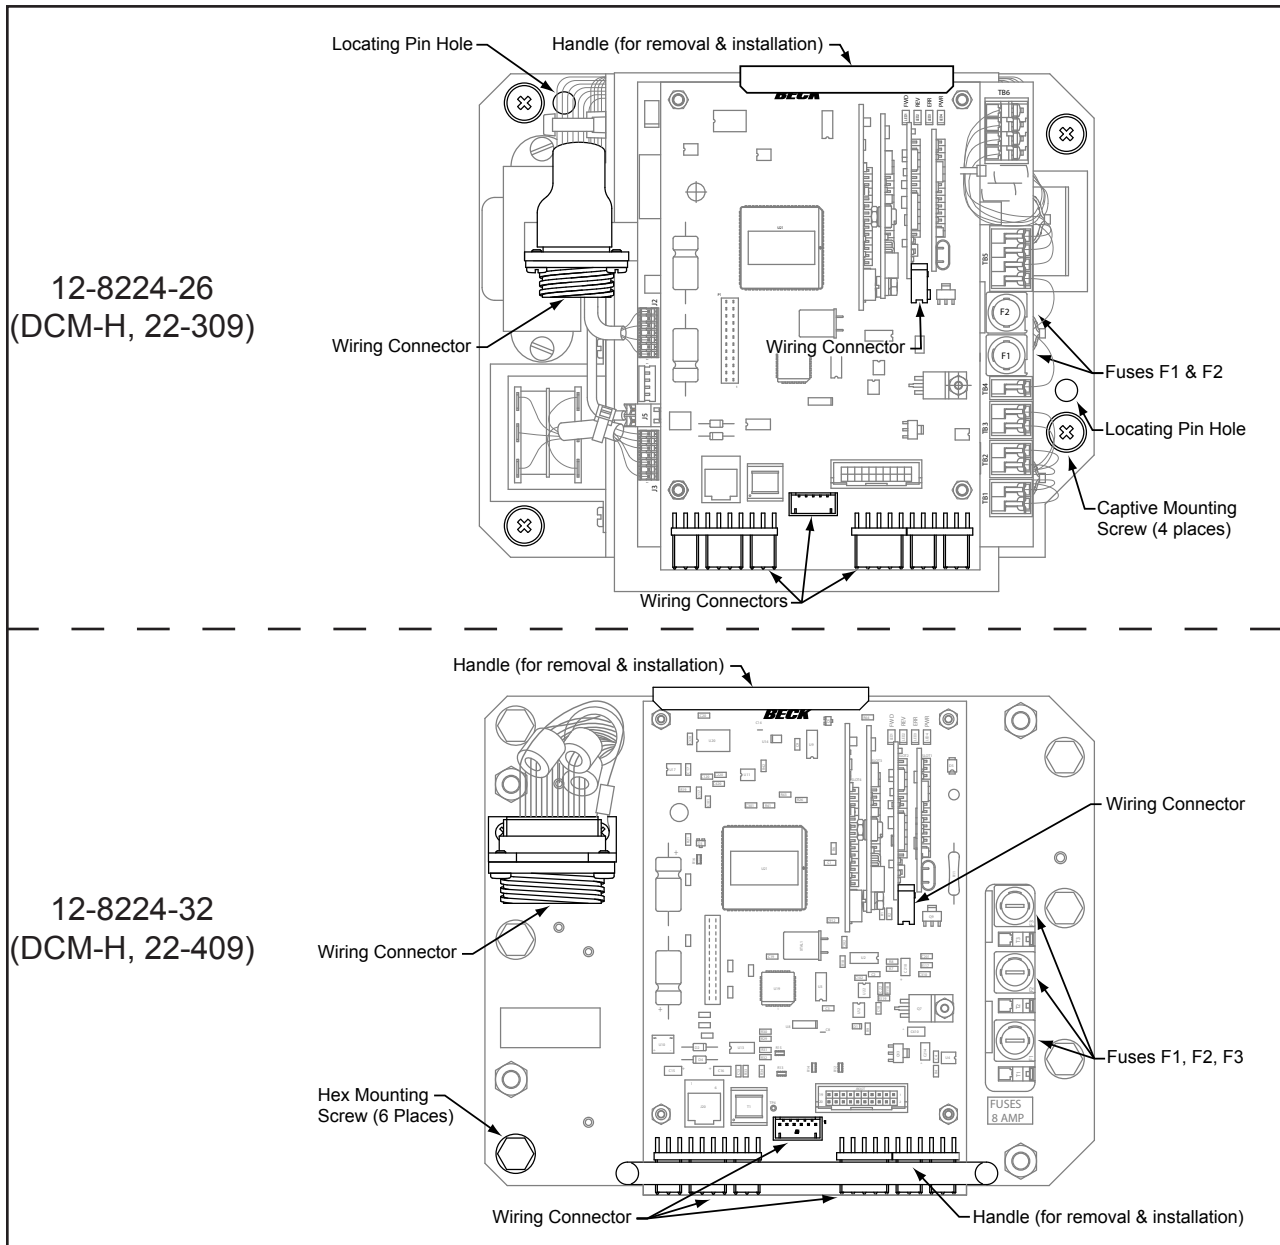

Figure 1
There are two fuses located on the 22-309 DCM assembly and three fuses located on the 22-409 DCM assembly (see Figure 1). The DCM assembly is located in the Electronics Compartment. To remove the Electronics Compartment cover, loosen the (4) captive 5/16-18 x 1.75" mounting screws.
3. Disconnect the (5) wiring connectors shown in Figure 1.
4. Loosen the (6) captive mounting screws with a 7/16" hex socket wrench.